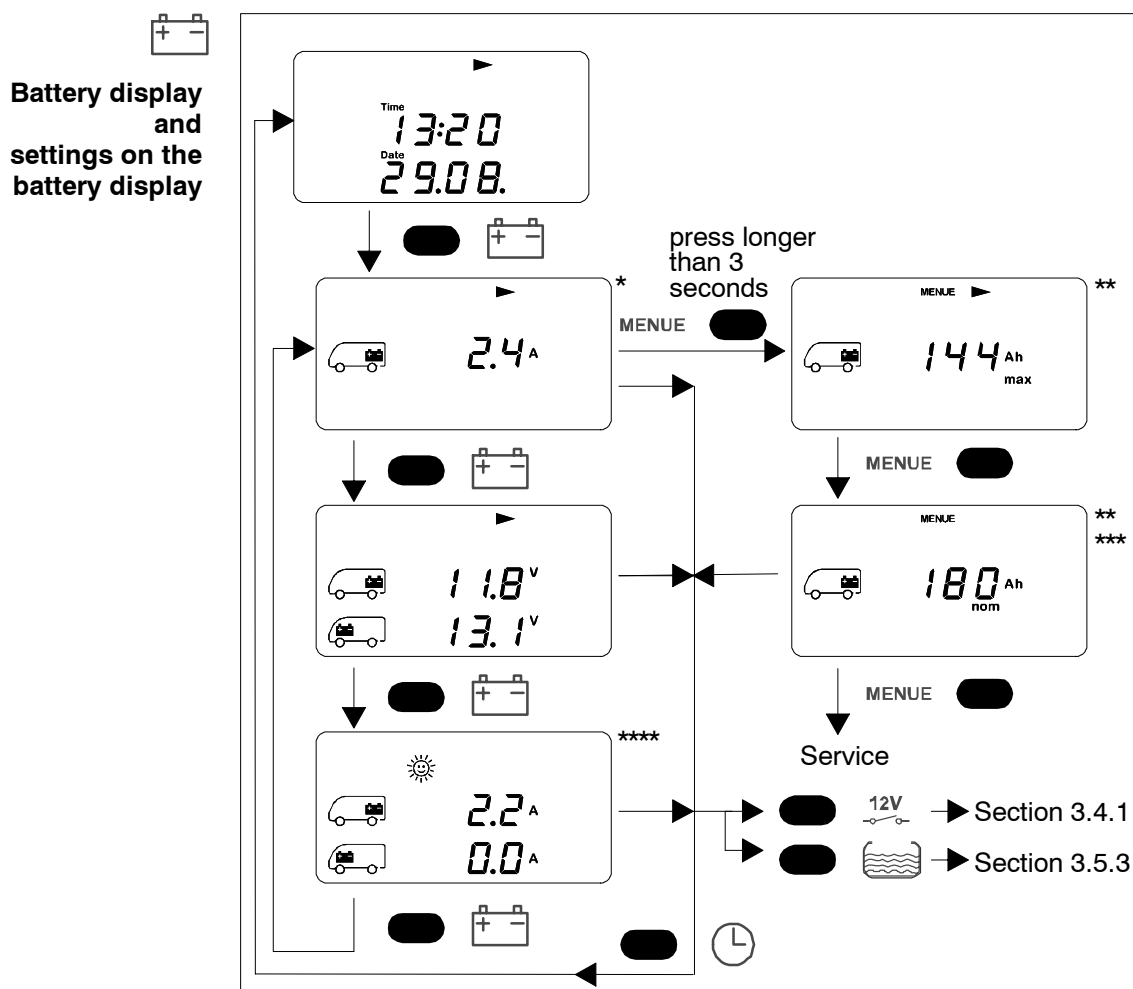

Fig. 4 Layout of battery display
- The remaining usable battery capacity of the living area battery is displayed together with the charge current to the living area battery (see Fig. 4: \*).